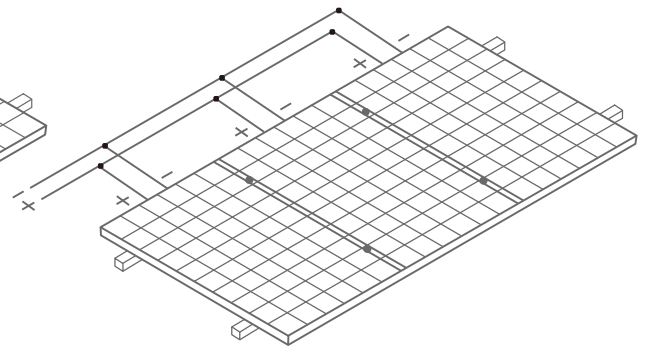

Figure 9 Connection in parallel
- When connected in parallel, the current output is equal to the sum of each string's current (as shown in Figure 9). Fuse is necessary for each module string. Take reference to the local regulation. Recommended maximum parallel Modules configurations: Fuse rating/ (1.25\* short-circuit current).